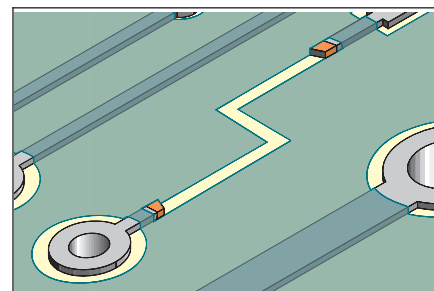

Figure 1 Scrape off any coating from the ends of the remaining conductors.
3. Use a knife and scrape off any solder resist or coating from the ends of the remaining conductor. (See Figure 1.)